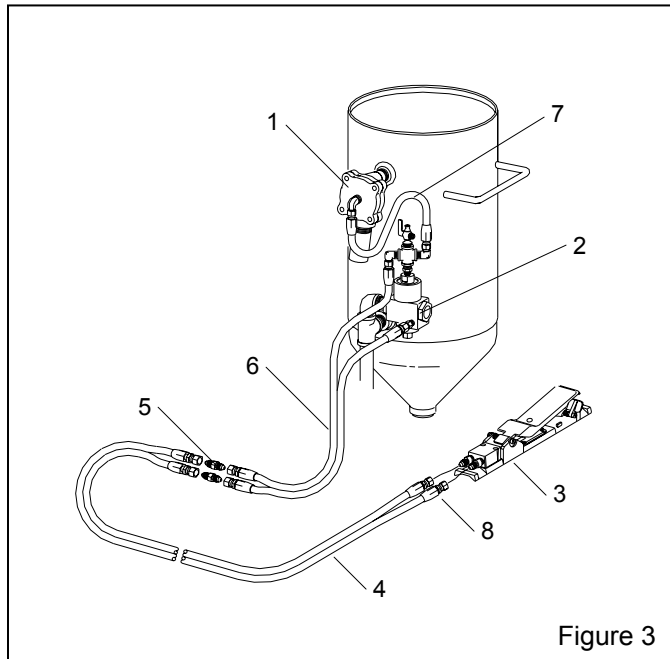

Figure 3
**7.3 System Replacement Parts, Figure 3**